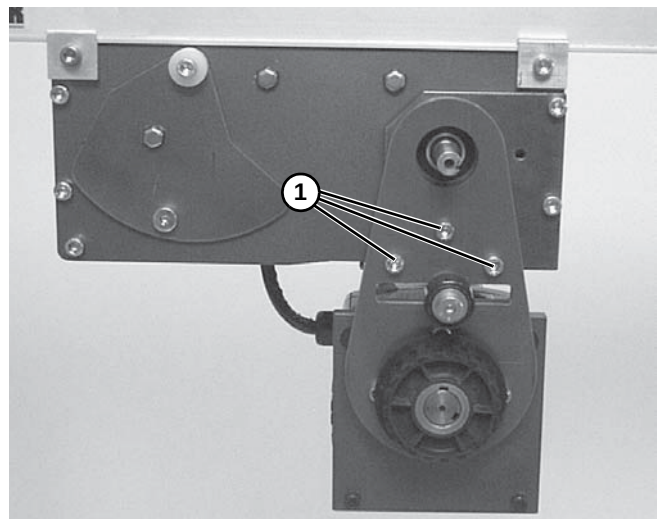

Figure 25
3. Remove three mounting screws (**Figure 25, item 1**) and remove gearmotor.